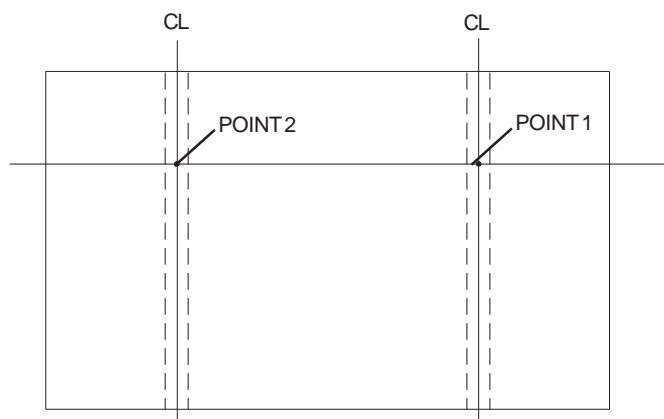
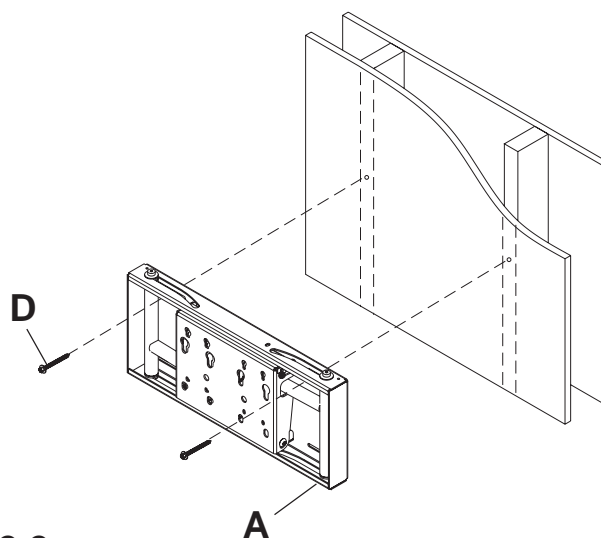

fig 2.1
fig 2.2
**2** Using a stud finder, locate the edges of the wood studs used in mounting this product. Use of an edge-to-edge stud finder is highly recommended. Based on its edges and using a level, draw a vertical line down the center of each stud. Mark a point (**point 1**) on the right stud centerline where upper right slot will be located. Using a level, mark a point (**point 2**) on the left stud centerline level with point 1 as shown in figure 2.1. Drill  $5/32$ " diameter holes  $2-1/2$ " deep through studs at the two points. Loosely fasten wall mount assembly (**A**) to wall using two #14 x  $2-1/2$ " wood screws (**D**) as shown in figure 2.2. Level, hold, and then tighten screws.